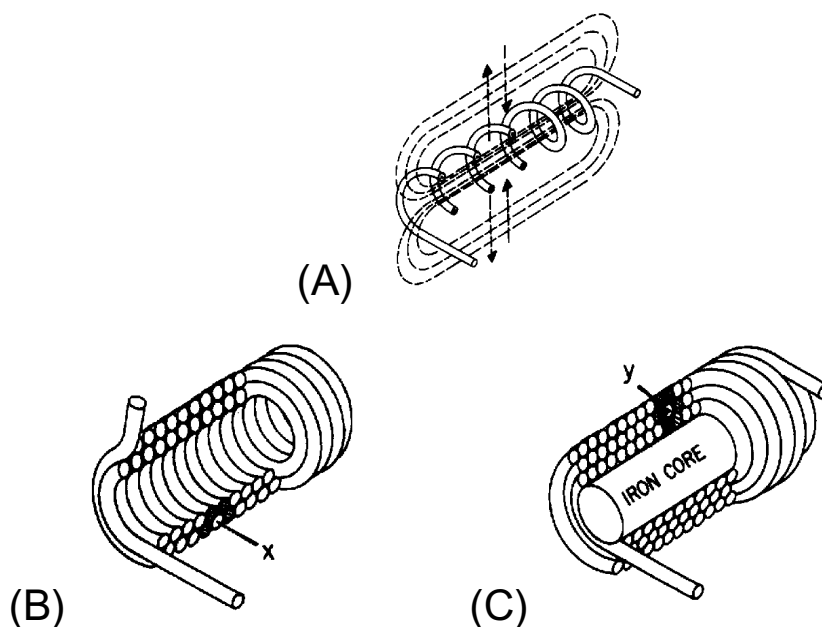

Figure 2-9.—Coils of various inductances.
Another way of increasing the inductance is to wind the coil in layers. Figure 2-9 shows three cores with different amounts of layering. The coil in figure 2-9(A) is a poor inductor compared to the others in the figure because its turns are widely spaced and there is no layering. The flux movement, indicated by the dashed arrows, does not link effectively because there is only one layer of turns. A more inductive coil is shown in figure 2-9(B). The turns are closely spaced and the wire has been wound in two layers. The two layers link each other with a greater number of flux loops during all flux movements. Note that nearly all the turns, such as X, are next to four other turns (shaded). This causes the flux linkage to be increased.
A coil can be made still more inductive by winding it in three layers, as shown in figure 2-9(C). The increased number of layers (cross-sectional area) improves flux linkage even more. Note that some turns, such as Y, lie directly next to six other turns (shaded). In actual practice, layering can continue on through many more layers. The important fact to remember, however, is that the inductance of the coil increases with each layer added.